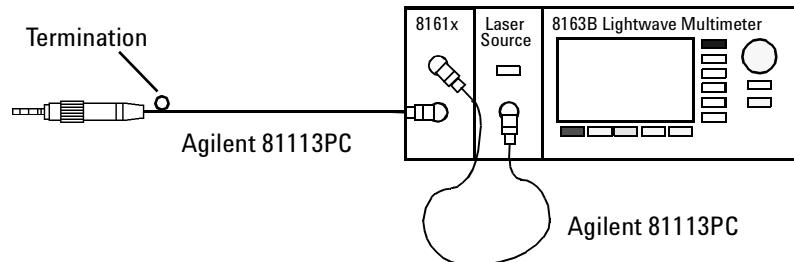

Figure 96 Termination Calibration - External source
- 1** Making sure all the connectors are clean, set up the instrument as shown in Figure 96 if you are using an External Source,